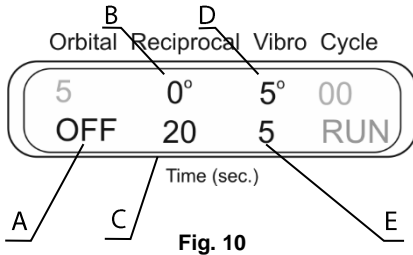

Fig. 10
6.9.4. **3D vibro + pause** (fig. 10). Turn off 3D orbital motion by setting time of 3D orbital motion to zero (**A**, OFF). Set the angle of 3D reciprocal type motion to zero (**B**). Set the time for 3D reciprocal motion (**C**, 1 - 250 s) - this is the time of pause duration. Set the turning angle (**D**, 0 - 5°) and time (**E**, 1 - 5 s) for 3D vibro type motion.